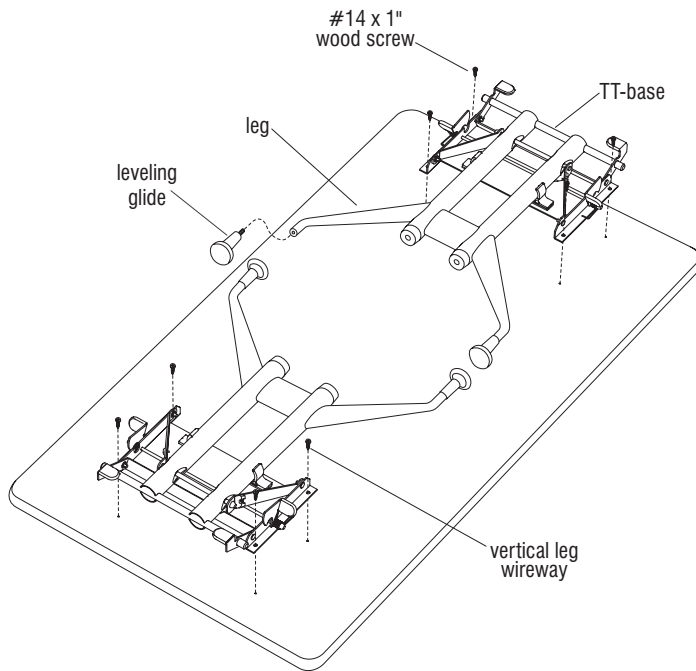
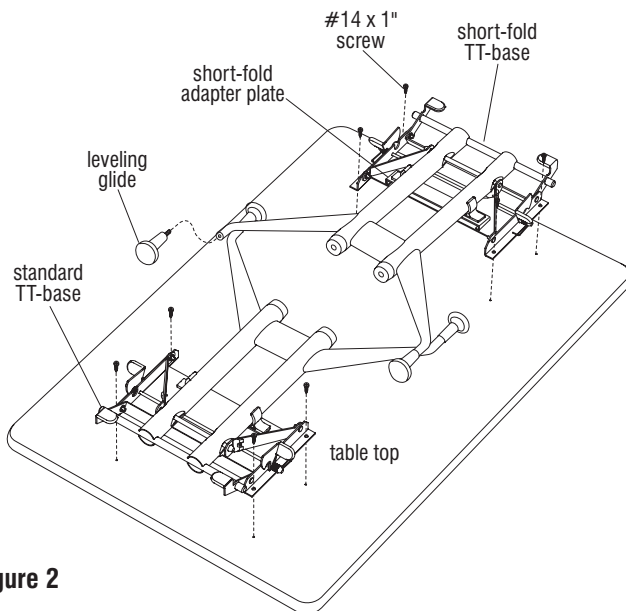

Figure 1
Figure 2
Note: The instructions below illustrate the assembly of both the folding TT-base (Figure 1) and the short-fold TT-base (Figure 2). The item that is required to make the base a short-fold base is the short-fold adapter plate (Figure 2). It is only on one base of each pair. The adapter plate allows the folded leg to be clamped shut while overlapping the opposite leg.
1. Place the table top upside down onto a soft protective surface (Figure 1).
2. Locate the four pre-drilled holes at each end of the table. Align the holes of each base with the pre-drilled holes in the table. The folded legs of the bases must be positioned toward the center of the table (Figure 1). If installation requires a short-fold base (Figure 2), the short-fold leg must be positioned over the standard leg.
3. Secure the bases to the table with four #14 x 1" wood screws provided, not to exceed 60 in/lbs of torque (Figures 1 & 2).
4. Screw two leveling glides into the threads at the bottom of each leg (Figures 1 & 2).